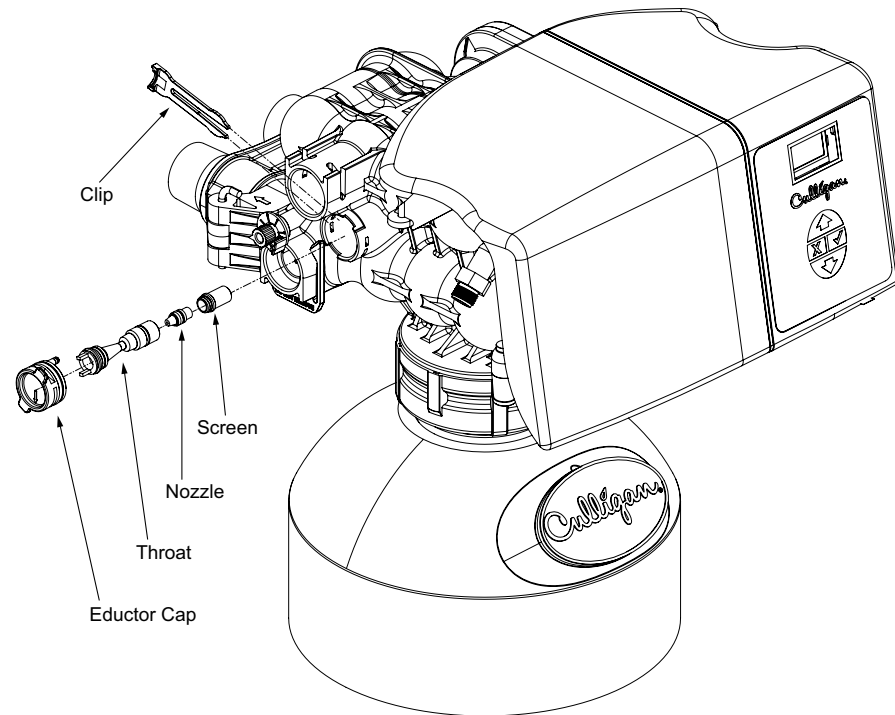
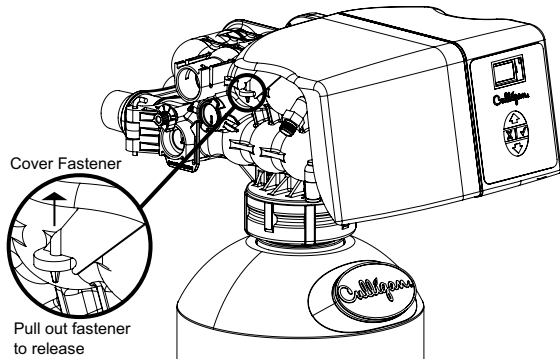
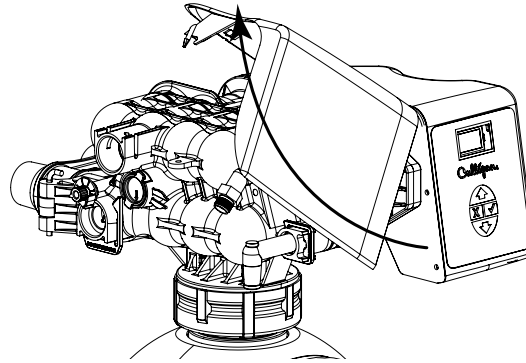
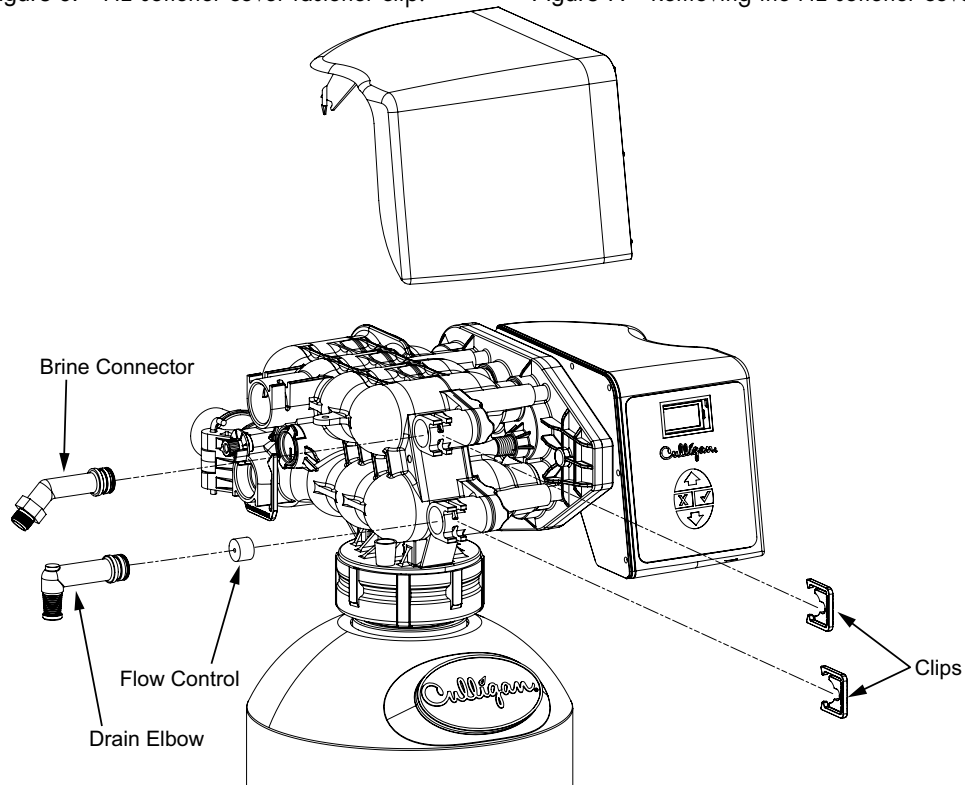

Figure 5. Removing the eductor nozzle and throat.
Figure 6. HE softener cover fastener clip.
Figure 7. Removing the HE softener cover.
Figure 8. Removing the drain elbow and brine elbow.
Refer to Figure 5 through Figure 8 and instructions below for changing the backwash flow control, eductor nozzle, and eductor throat.
Refer to Figure 5 and the instructions below when changing the eductor nozzle and throat.
Refer to Figure 6 through Figure 8, Table 2, and instructions below to replace the backwash flow control.
1. Remove the cover by releasing the cover fastener from the control valve. See Figure 6 and Figure 7.
2. Remove the drain clip and pull the drain elbow straight off. See Figure 8.